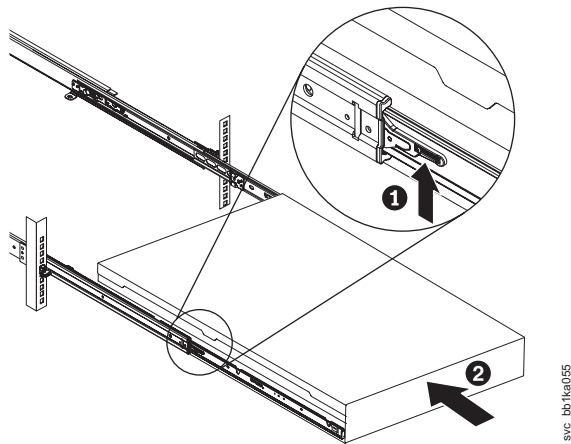

Figure 108. Raising the SAN Volume Controller 2145-CF8 or 2145-CG8 locking levers of the slide rails of the rack
12. Lift the locking levers ( **1** in Figure 108) on the slide rails and push the server **2** all the way into the rack until it clicks into place.